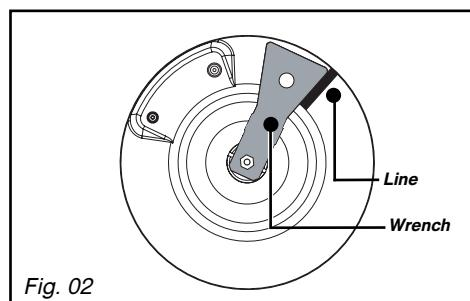

Fig. 02
– **Connection with a reinforced rubber hose** with **screw-on mechanical connectors** (compliant with the XP D 36-112 standard) whose service life is 10 years (Fig. 02).
- Draw a line on the burner plate using a pencil at the place indicated (*Fig. 02*).